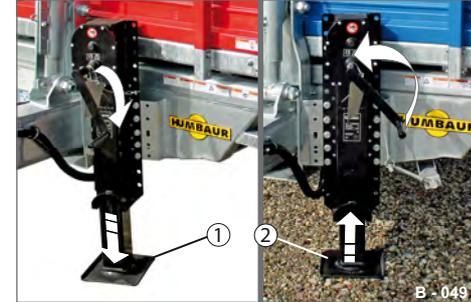

Fig. 50 Height equalisation/alignment
- ▶ Crank the base of the spindle support (Fig. 50/1) up or down (Fig. 50/2).